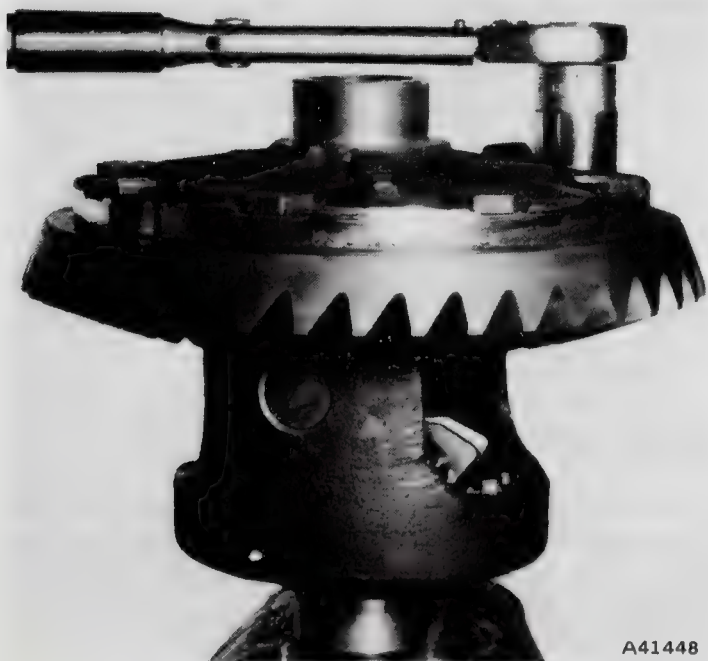

Fig. 2E-33 Ring Gear Bolt Removal
NOTE: Refer to figure 2E-32 as a guide to parts identification during service operations.
(2) Mount differential on axle shaft and remove ring gear bolts (fig. 2E-33).
(3) Place shop towels over top of vise to protect ring gear teeth from being nicked when gear is removed.
(4) Remove ring gear using brass drift and hammer (fig. 2E-16).
(5) Remove differential from axle shaft and remove ring gear.
(6) Remount differential case on axle shaft.
(7) Tape shop towel around rear of case to prevent pinion shaft snap rings from flying out when removed.